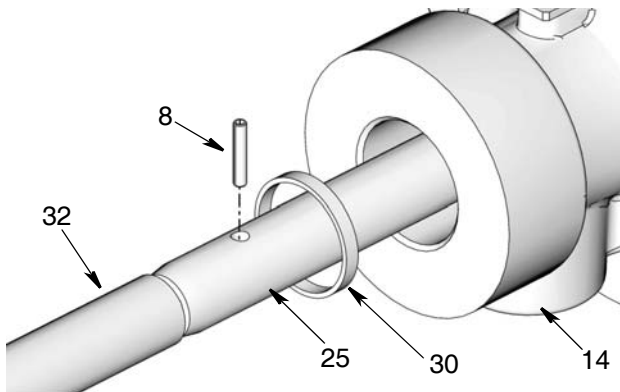

Fig. 42
10. Install gasket (30) into bottom cover (14) (Fig. 42).
11. Screw the connecting rod (32) and the displacement rod (25) together, aligning the pin hole in both
pieces to allow the pin to be pushed through (Fig. 42).
12. Replace the pin (8). Use a rubber hammer to tap the pin into place, being careful to make sure the sides of the pin are flush with the outside surface of the connecting rod (Fig. 42).